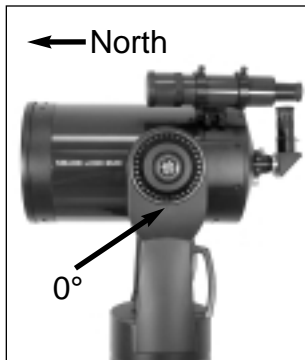

Fig. 8: Alt/Az Home Position.
8. **Set Home Position** - Autostar then prompts you to set the telescope in the Alt/Az Alignment home position (if necessary). To set your telescope in the "Alt/Az" home position (see Fig. 8):